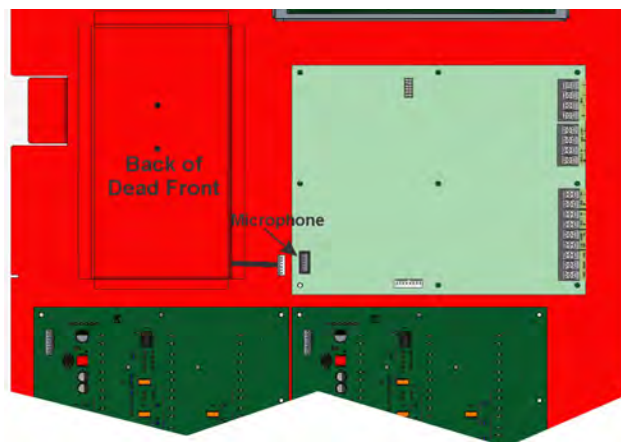

Figure 4.59 Microphone Cord Inserted Through Dead Front Panel Hole
2. Insert Microphone cord through hole at the bottom of the dead front panel. See Figure 4.59.